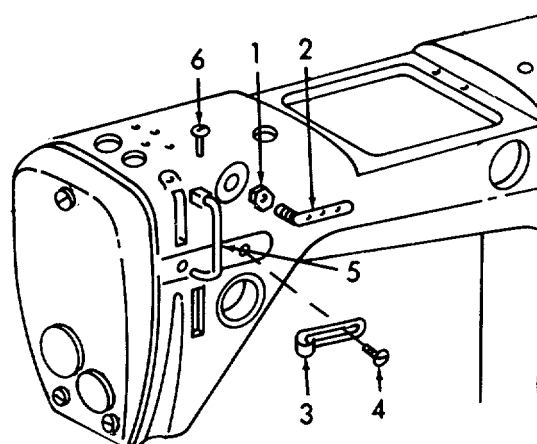

Figure 6-25. Thread Guides, Installation.
g. *Installation (Refer to Figures 6-25 and 6-26).*
- (1) Install locknut (1) to thread eyelet (2).
- (2) Install thread eyelet (2) and tighten locknut (1).
- (3) Install frame thread guide (3) and secure with screw (4).
- (4) Install thread take-up lever cover (5) and secure with screw (6).